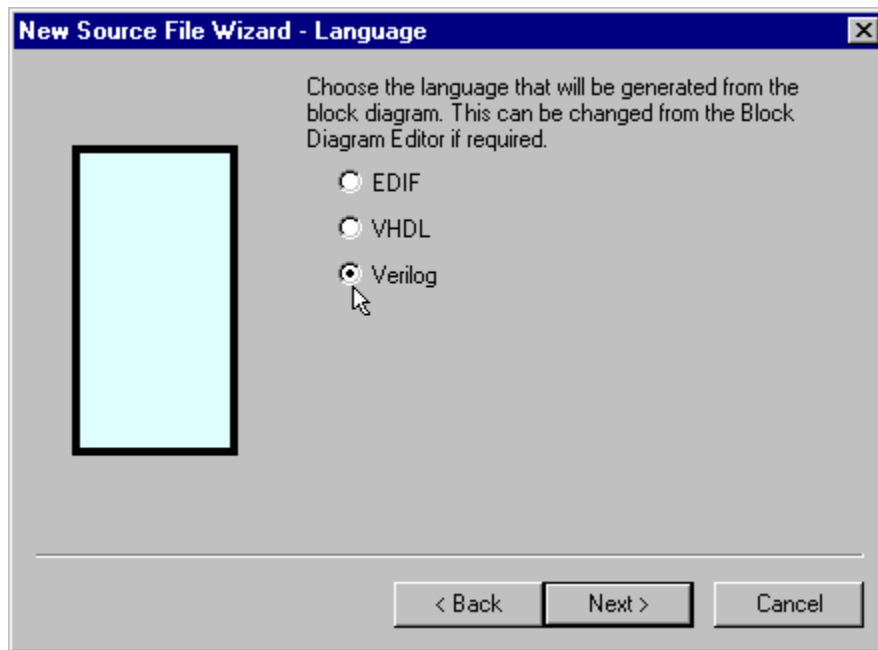

Figure 9
4. Select the “Verilog” option, and click the Next button (see Figure 9).